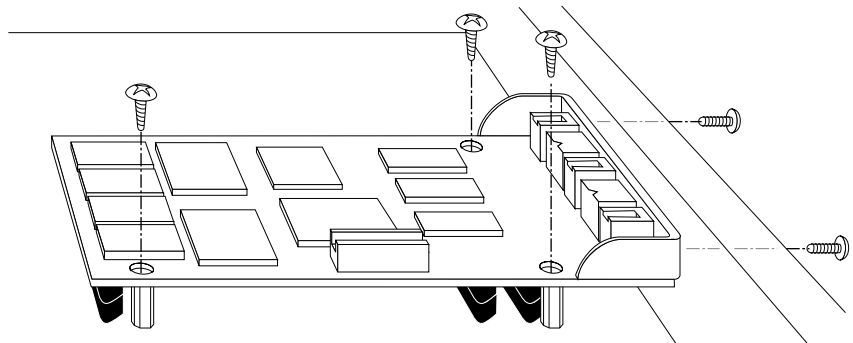

Figure 4-6 Installing the Indy Video board
- Align the three screw holes on the Indy Video board over the vacant standoffs (tall, hexagonal posts) on the graphics board, as shown in Figure 4-6.
- Using the screwdriver provided, insert and tighten the three screws of the screws provided to connect the Indy Video board to the graphics board, as shown in Figure 4-6. As you tighten the screws, alternate among them so that the board seats evenly.